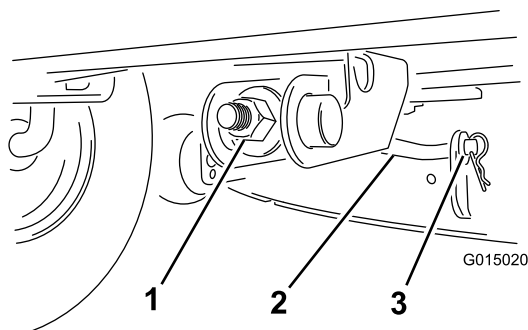

Figure 40
- Adjust the front-to-rear blade slope by rotating the adjustment nut in the front of the mower (Figure 40).